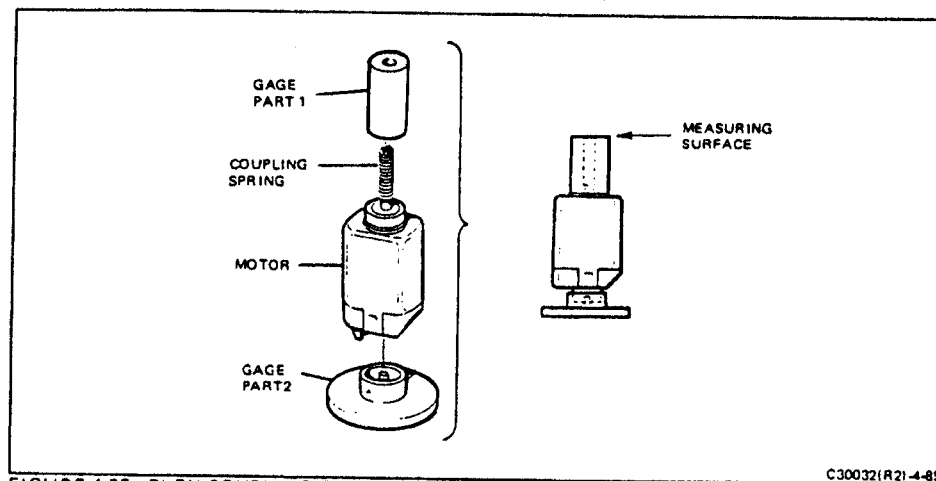

FIGURE 4-85 FLEX COUPLING GAGE
1. Before installing the motor, it is imperative that the coupling spring position be critically checked. Use the two piece flex coupling gage (Special Tool #11679). Place the gage as shown on Figure 4-85. The end of the coupling spring should be flush with the end surface of the gage. If the spring extends beyond the end surface of the gage, leave the motor on the bottom (support) end of the gage. Lift off the upper half of the gage and use a jeweler's screwdriver to move the spring further onto the shaft. If the spring does not reach the end of the gage, remove the gage and, using a jeweler's screwdriver, work the spring further from the motor flange.